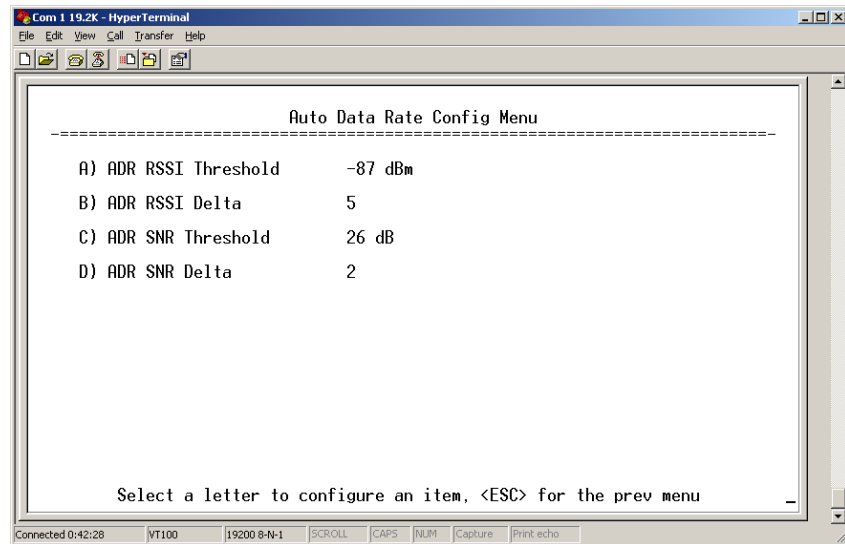

Figure 3-22. Auto Data Rate Menu
- **Auto Data Rate Configuration**—This selection brings up a submenu as shown in Figure 3-22. For the settings in this submenu to have any effect, the Data Rate menu item (Page 49) must be set to **AUTO**.
The Auto Data Rate Configuration submenu consists of two threshold settings, each accompanied by a “delta” (amount of change) setting. Using the example of Figure 3-22, assume the current RSSI is -87 dBm. An RSSI reduction of more than 5 dBm (more negative RSSI number) would cause a data rate change from high speed to standard speed. Once the data speed has changed to standard speed, an RSSI *increase* to the level of -82 dBm would be required for the radio to switch back to high speed. This provides an operational “window” or hysteresis range over which the data speed stays constant despite minor changes in signal strength.
The SNR (signal-to-noise ratio) threshold and delta operate in the same manner described above, with the exception that the units are expressed in relative dB instead of dBm. In the example of Figure 3-22, a drop of 2 dB from a level of 26 dB would result in a data rate change from high speed to standard speed. For the radio to return to high speed, the SNR would need to increase to 28 dB. (See *Glossary* for definition of SNR.)
Figure 3-22 shows the default values for RSSI and SNR parameters but these may be changed to optimize performance in your environment. In properly designed systems, experience has shown that RSSI levels between -50 dBm and -90 dBm provide reliable operation, provided the signal-to-noise ratio is 17 dB or above. Tailoring the thresholds with these baseline values in mind, can provide improved performance in your system.